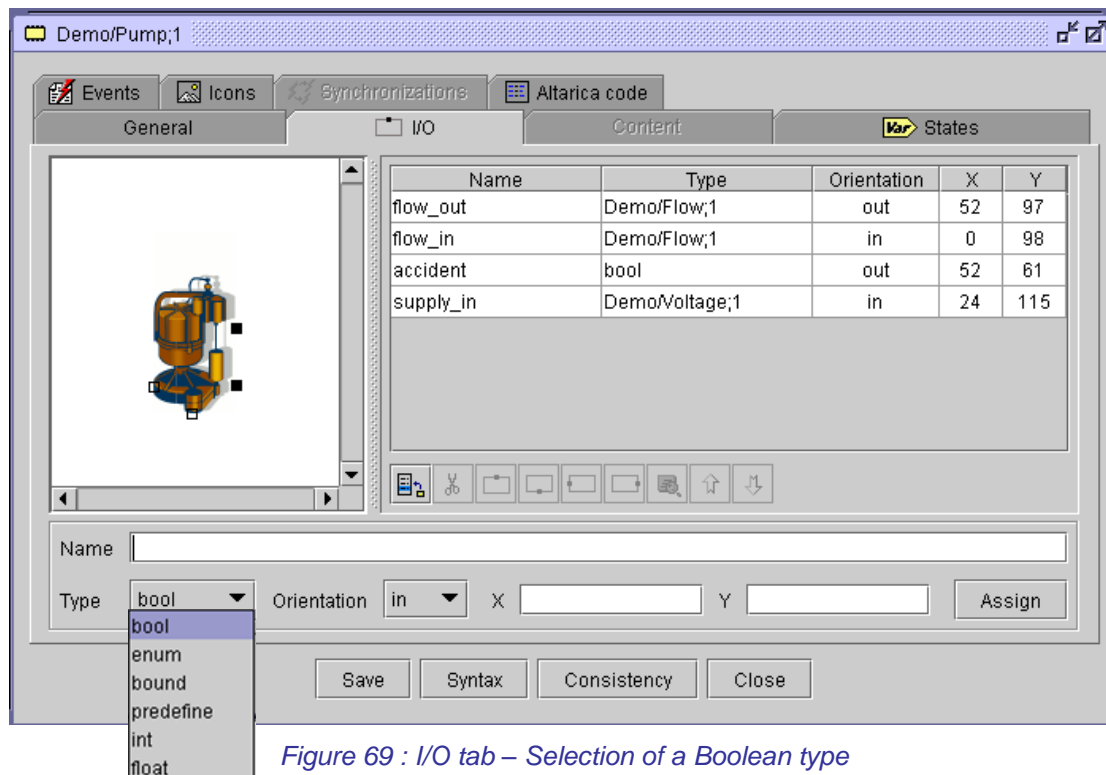

Figure 69 : I/O tab – Selection of a Boolean type
The **I/O** tab (Figure 69) allows to define and manage the input/output flow variables and to ports of the components.
- * **bool**: for boolean type (Figure 69), the possible values are **true** and **false**